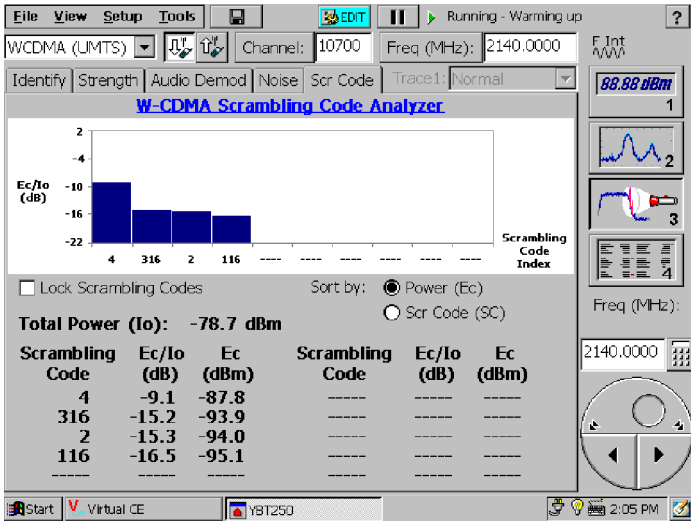

Figure 3-26: Scrambling codes sorted by descending power (Ec)
- **Power (E_c)** to sort by descending E_c level. (See Figure 3-26.)
- **Scrambling Code (SC)** to sort by ascending Sc_r Code index.